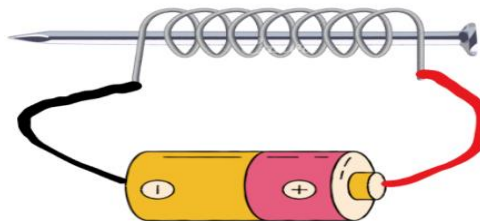

Fig. 1.58 Coil is connected to the battery
Step 2. Connect the two terminals of wire to a battery. Figure 1.58 illustrates copper wire is connected to the battery.